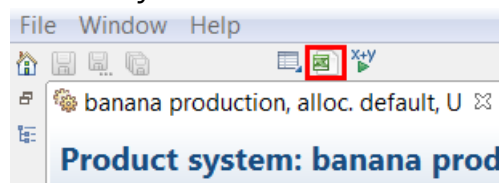
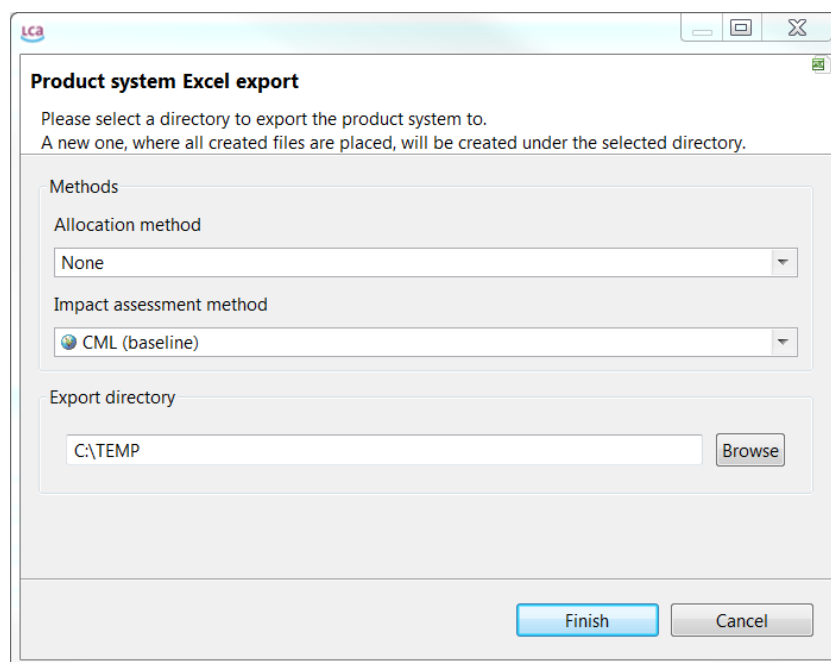

Figure 23: Exporting product system as excel file, step 1
Figure 24: Exporting product system as excel file, step 2
- To export product systems as excel first select the product system in the Navigator to open it up in the Editor. You can then select the excel export icon in the top left-hand corner (Figure 23). The product system excel export wizard will open. The "Methods" section can be filled out or left blank. Select an export directory and click "Finish" (Figure 24). A folder with one excel file for Elementary Flows and one for Product Flows will be saved.